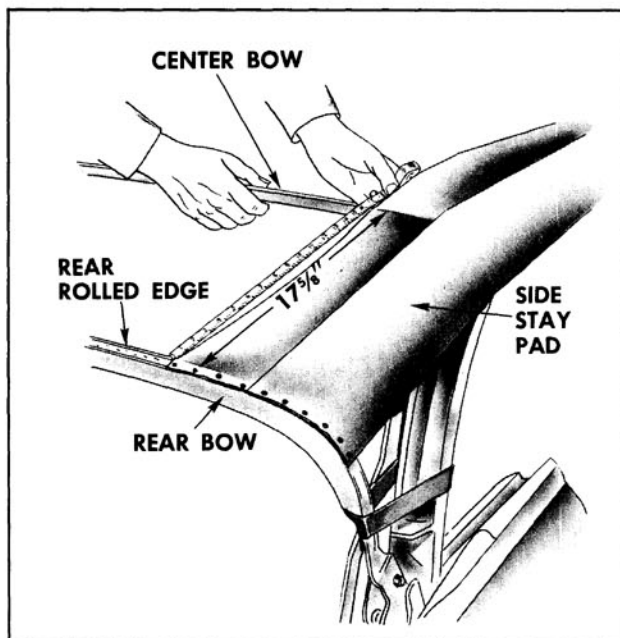

Fig. 16-440 Positioning Rear Bow
3. Trim selvage end of side stay pads just forward of rear rolled edge of rear roof bow. (Fig. 16-440)